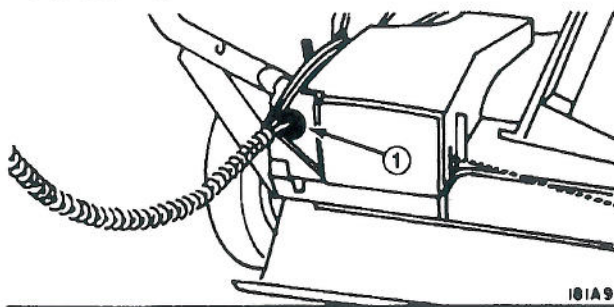

Figure 20
2. Rotate adjustment knob (Fig. 20) 1/2 turn clockwise to tighten drive belt, or 1/2 turn counterclockwise to loosen belt. Hold control cable while rotating knob to prevent cable from turning.